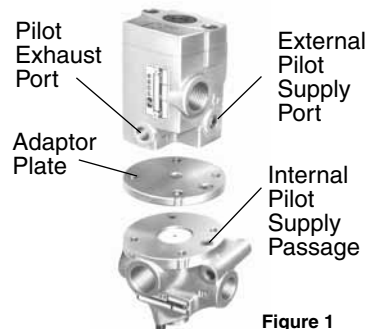

Figure 1
**INLINE POPPET VALVES:** See Figure 1.